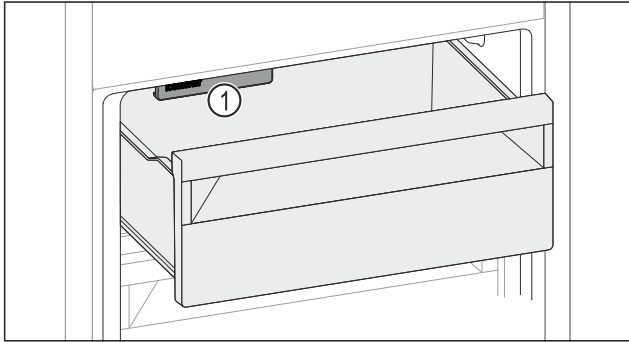

Fig. 182
- ▶ Watch out for the IceMaker Fig. 182 (1).